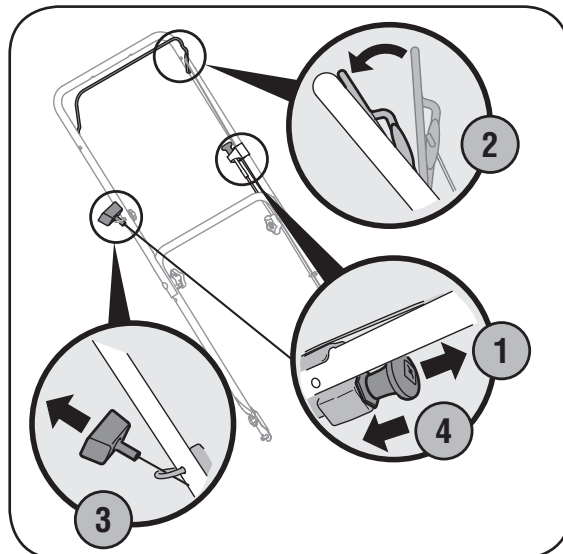

Figure 4
1. Pull out the choke knob located on the left side of the upper handle. See Figure 4.
3. Pull the starter grip lightly until resistance is felt, then pull rapidly to overcome compression, prevent kickback and start engine. Repeat if necessary. See Figure 4.
4. When engine warms up, push in the choke knob. See Figure 4.
1. Release the blade control handle. See Figure 4.